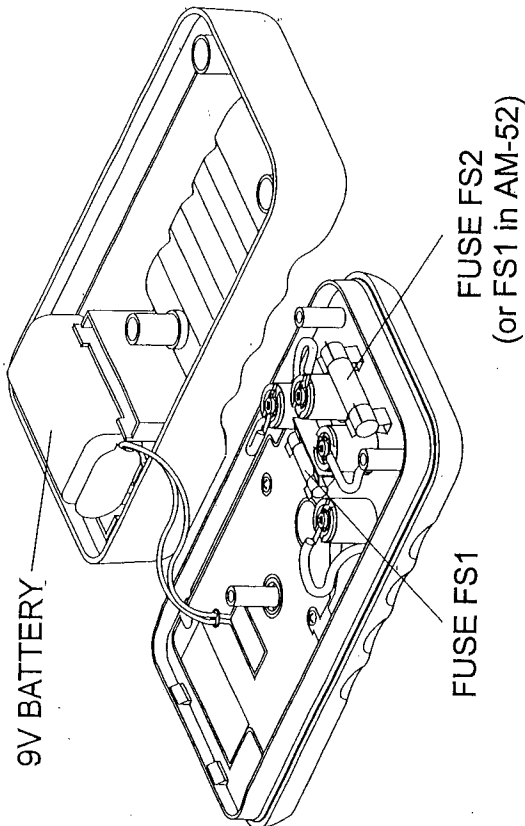

FIG 12. BATTERY & FUSE REPLACEMENT
- 4) Lift the end of the case bottom nearest the input jacks until it unsnaps from the case top, see FIG 12